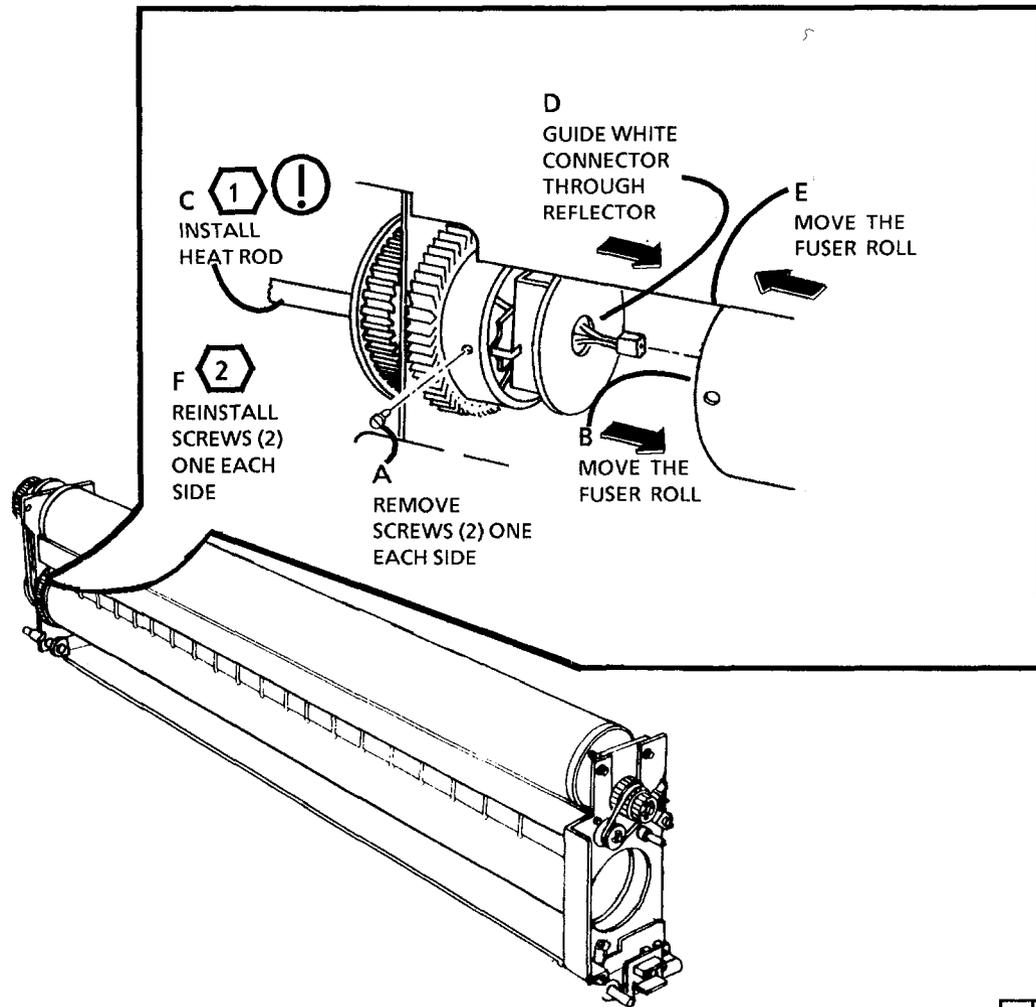

Figure 2. Install the Heat Rod
1. (FIGURE 2): INSTALL THE HEAT ROD.